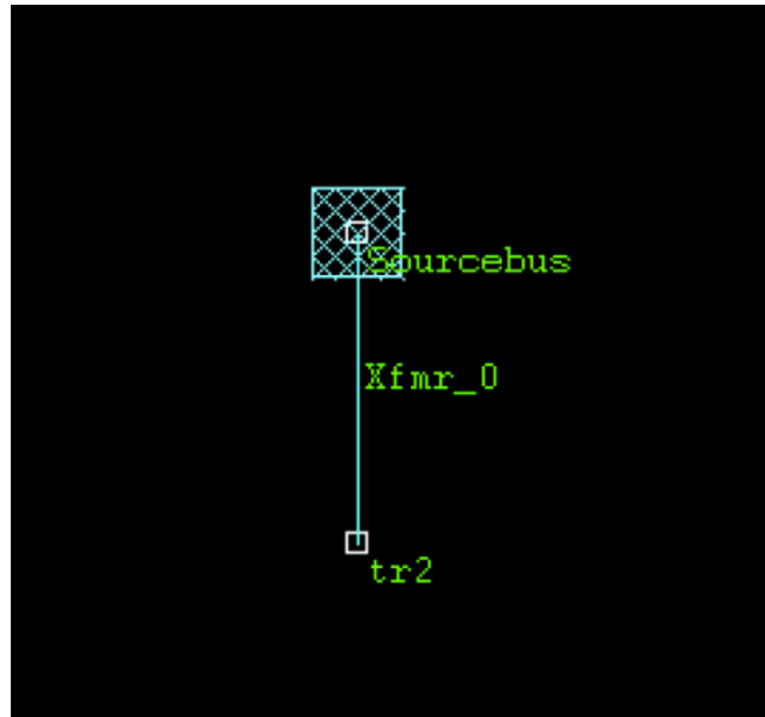

Fig.5 Substation and transformer added to the model
- ▶ The new transformer will be added to the model as shown in Fig.5.